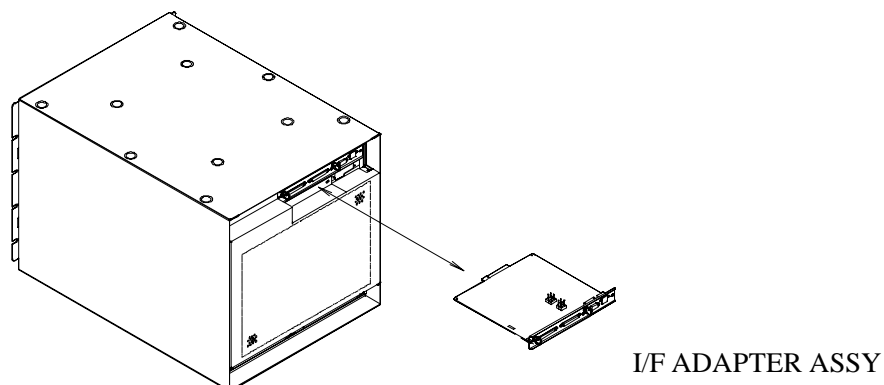

Figure 4.6.5 Setting I/F ADAPTER ASSY
(3) Setting I/F ADAPTER ASSY (See Figure 4.6.5)